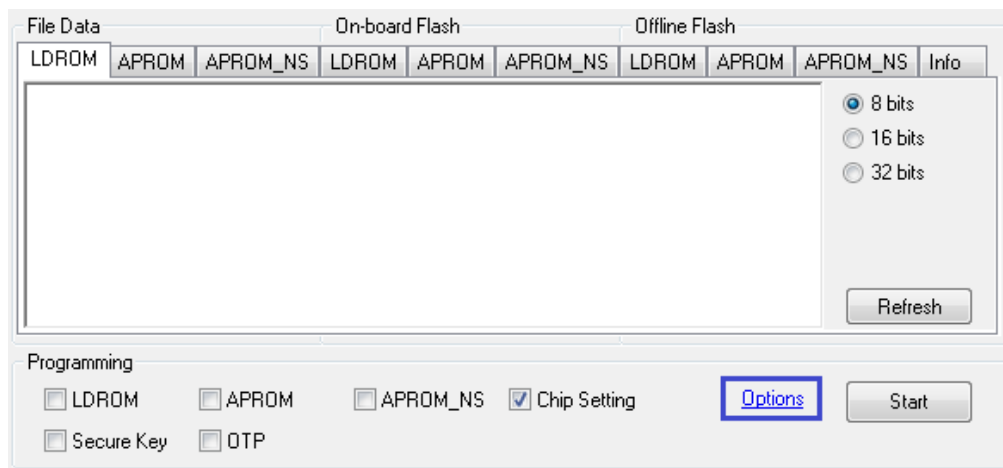

Figure 4-2 Programming Setting
5. Click "Options" button to enter the programming setting page, as shown in Figure 4-2.